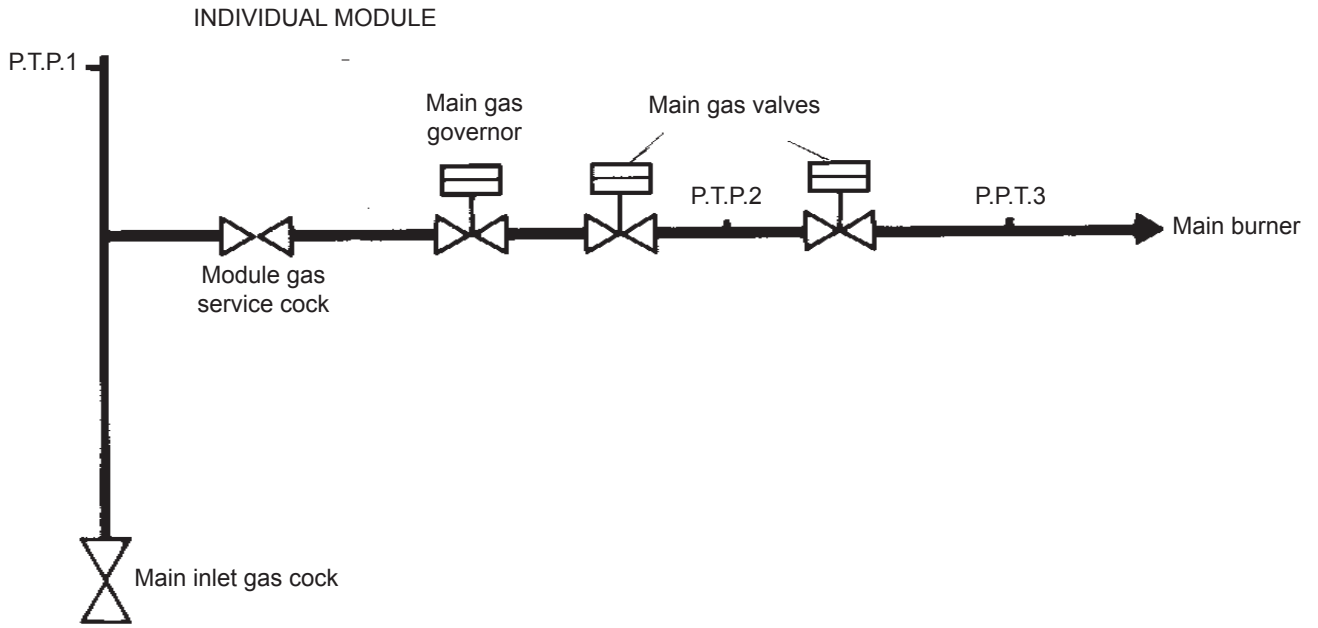

Fig.19 Diagram of Gas Supply Manifold
1. Unscrew and remove the ferrule (Fig.19) from the spark electrode and disconnect the ignition lead. Pull off the in-line connector in the flame sensing probe lead. Undo the pressure switch earth lead.
- iii) There is mains electrical supply (230V) at the spark generator at the correct time during the ignition sequence (Fig. 19)